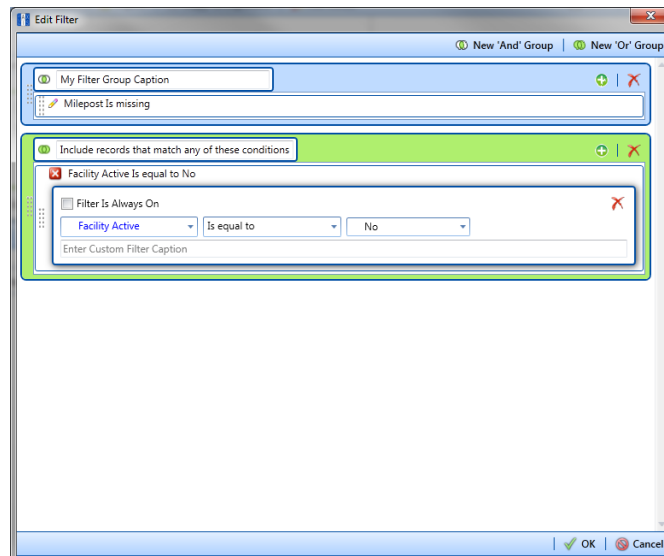

Figure 10-31. New 'Or' Filter Group
- a Click **New 'Or' Group** to open a filter properties group box (Figure 10-31, page 518).